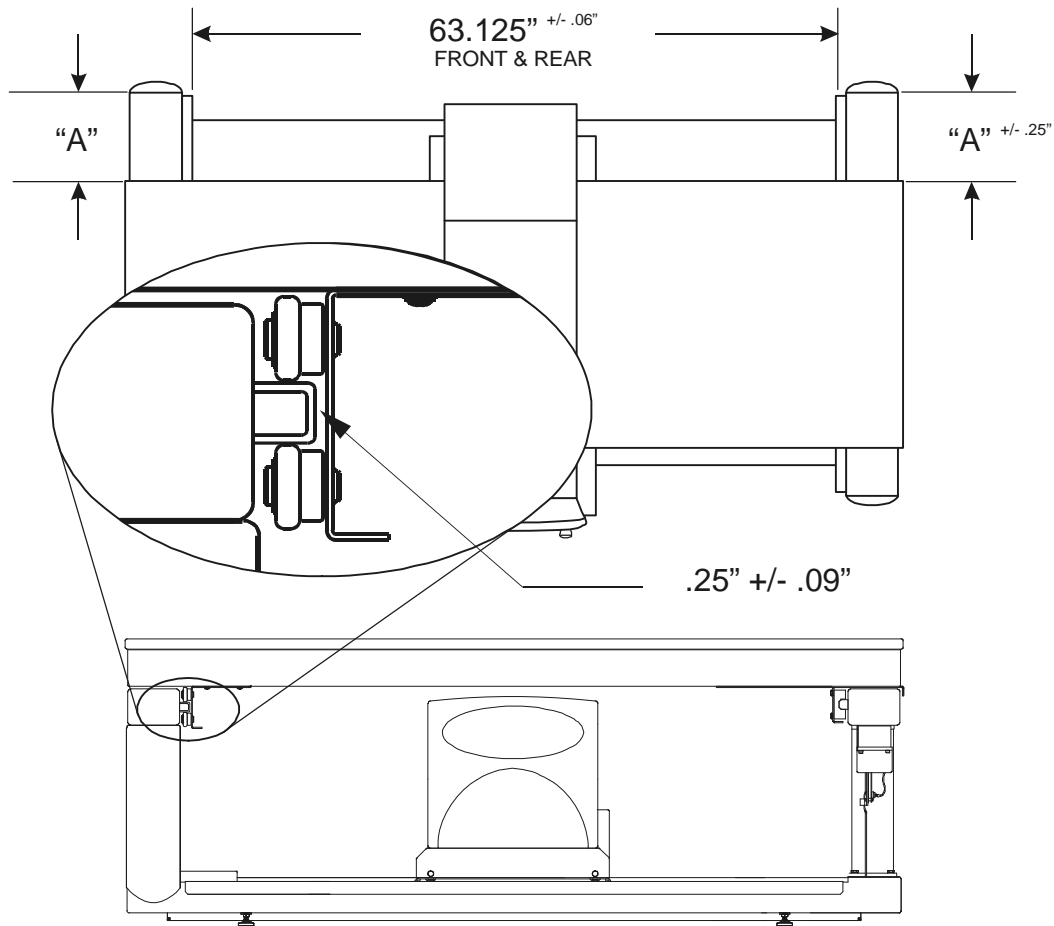

Figure 3-24. Table Alignment
1. Using a measuring tape, and referring to Figure 3-24, check the following: